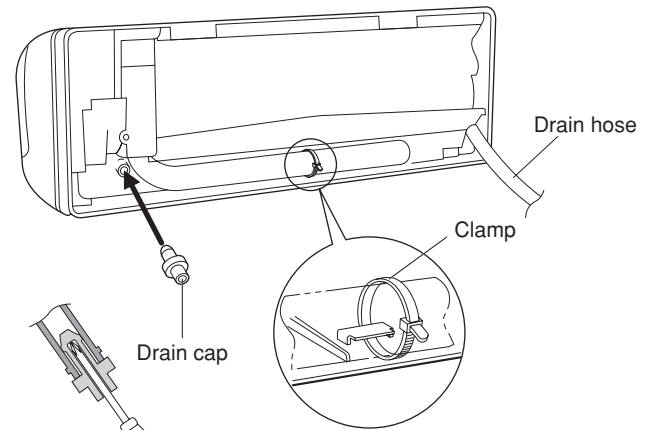

Fig. 40a
- (d) Reattach the drain hose to the left side and the drain cap to the right side. (Fig. 40a)
- (3) Install the indoor unit on the rear panel.
- (4) Connect the tubing and wiring led inside from outdoors.
- (5) After completing a leak test, bundle the tubing together with armoring tape and store it inside the tubing storage area at the back of the indoor unit and hold it with clamps. (Figs. 40a and 41)